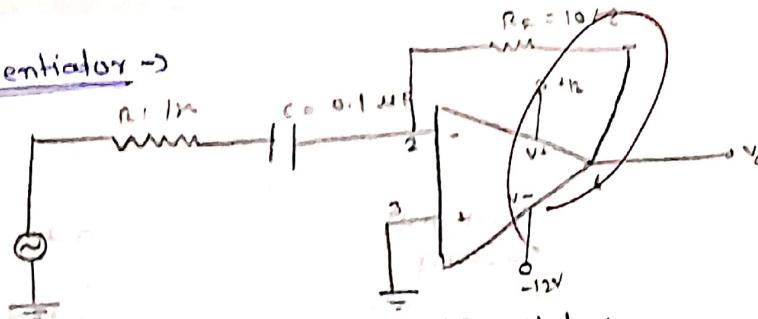

Fig. 3 → Differentiator
- 1) Assemble the ckt as shown in Fig. 3 make sure the power supply ( $\pm 12V$ ) ground is connected to ckt float ground.